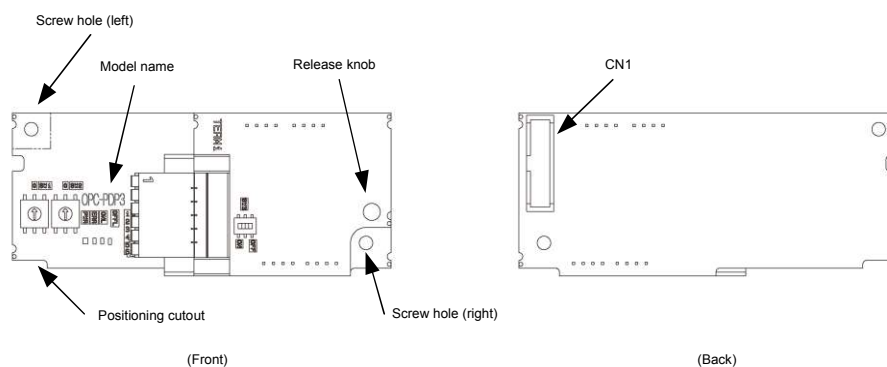

Figure 1.1 Names of Parts on PROFIBUS-DP Communications Card (OPC-PDP3)
- (1) A communications card, two screws (M3 × 8), and the PROFIBUS-DP Communications Card Instruction Manual (this document) are contained in the package.
- (2) The communications card is not damaged during transportation--no defective parts, dents or warps.
- (3) The model name "OPC-PDP3" is printed on the communications card. (See Figure 1.1.)